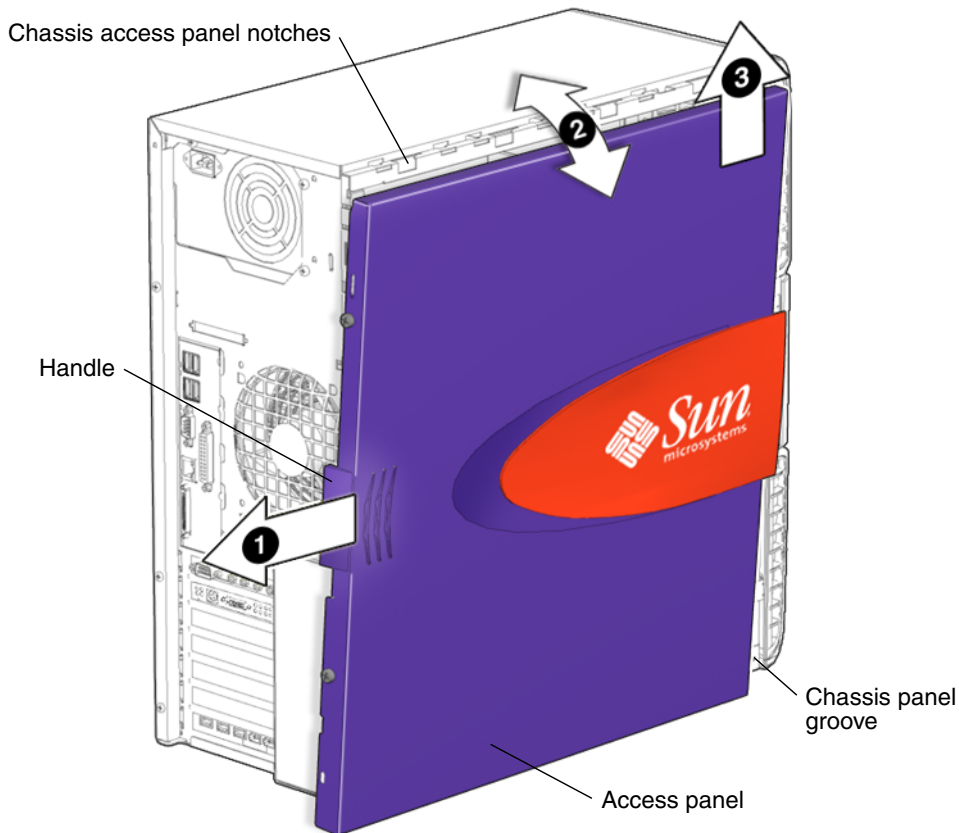

FIGURE 10-7 Removing the Access Panel
4. Slide and lift the access panel from the chassis (FIGURE 10-7).